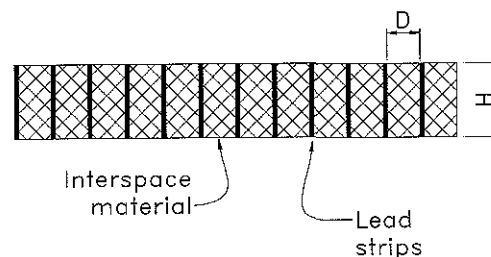

Fig E-40. Formation of an X-ray grid
- Grid ratio. This is the ratio of the height of the lead strips (H), and the distance between them (D). $R = H/D$, and is expressed as a ratio, for example, 8:1.
- (See Fig E-40)